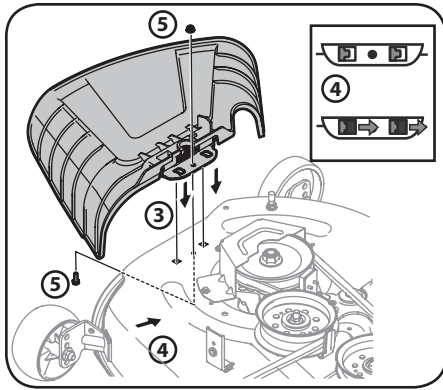

Figure 2-5
- Place the chute deflector on the deck, be sure to insert the tabs on the chute deflector into the holes on the deck. See Figure 2-5.
- When the tabs are installed in the deck, slide the chute deflector toward the rear of the tractor until the bolt hole in the chute deflector aligns with the hole in the deck. See Figure 2-5.
- Secure the chute deflector in place with the flange lock nut and hex screw removed in step 2. Tighten to 102-124 in-lbs. See Figure 2-5.